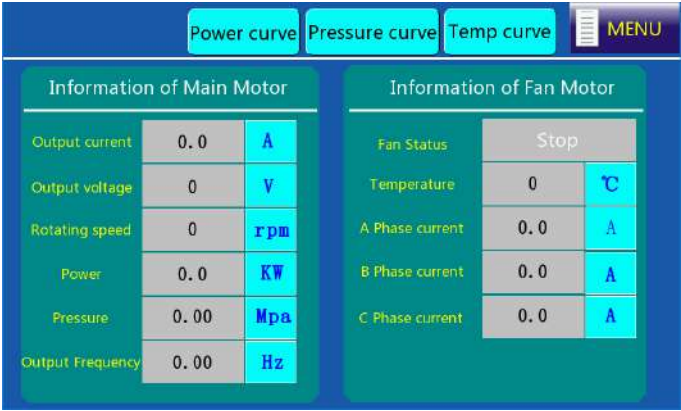

Figure 4-13 Running information interface
Step 8 Choose **Running Info** in the menu. The interface shown in Figure 4-13 is displayed.